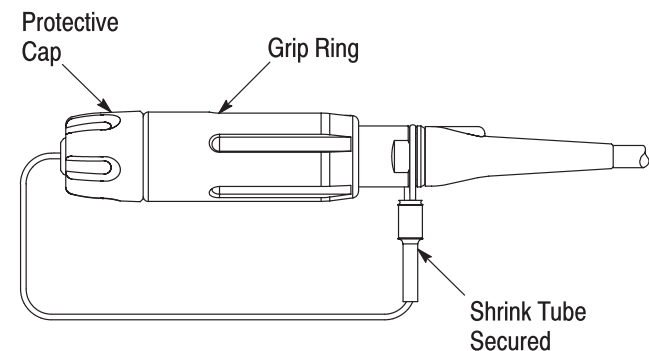

Figure 16
1. Loop the tether wire around the groove in the extension, and feed the end of the tether wire into the open end of the tether crimp sleeve. Pull approximately 3 to 5 mm of the tether wire through the tether crimp sleeve. See Figure 16, Detail A.
3. Slide the shrink tube over the tether crimp sleeve until it hangs over the top of the crimp sleeve by 1 mm. See Figure 16, Detail B.
4. Using the heat gun, and starting at the top of the shrink tube, apply heat to the shrink tube until it shrinks evenly and is secure. Thread the protective cap onto the grip ring. Finger-tighten the cap. See Figure 16, Detail C.
5. Thread the protective cap onto the grip ring, then finger-tighten the cap as shown in Figure 16, Detail C.